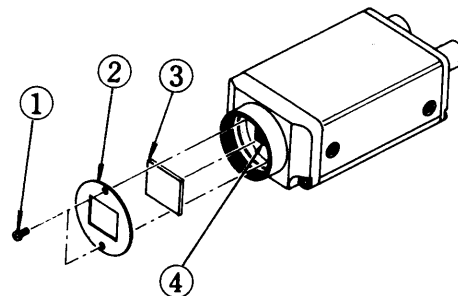

Fig. 6
- (1) Remove two screws ① shown in Fig. 6, and filter holder ② will come off.
- (2) Remove the optical filter ③ from filter frame ④ .
- (3) Then, reinstall and secure filter holder ② with two screws ①.